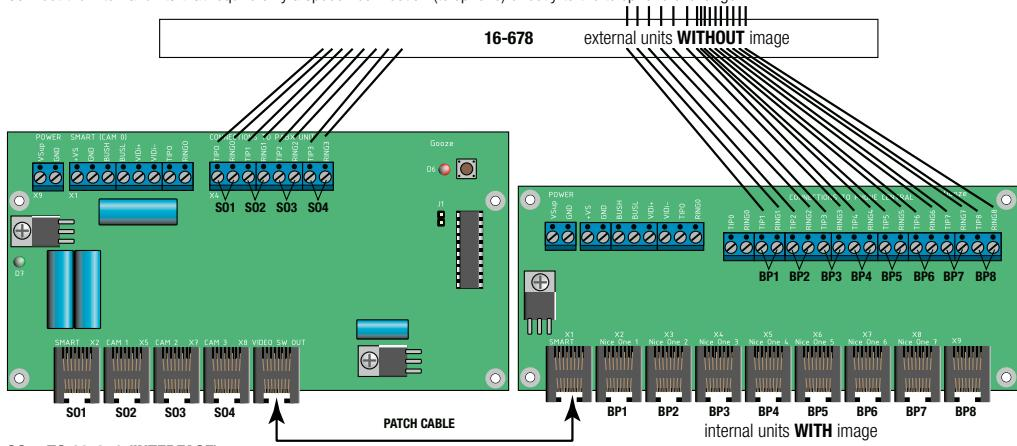

fig.1:switcher printed board (left) an splitter printed board (right) inside the video switcher 16-676-01
- Connect the supplied patch cable with the RJ45 connectors as in fig. 1.
Unplug the plug before installing the appliance. The rear of the video switcher has openings for inserting the cable with telephone lines. Connect the analog telephone line to the connector block in the video switcher (fig.1). The connections TIPO and RINGO, ..., TIP3 and RING3 of the left printed board are connections for the telephone lines to which the interfaces (inputs S01, S02, S03 and S04) are connected.
If an interface (external unit with camera) or a camera interface (external camera) is connected to one of the interface input terminals (fig.1, S01, S02, S03 or S04), the image of one of the cameras can be displayed on all programmed internal units. Program the addressable video signal via the interface (see user manual 16-651).